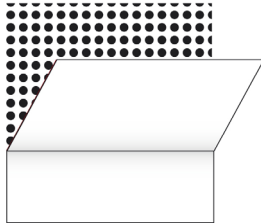

Figure 05
- › Once the graphic is correctly applied to the top, remove the hinge (masking tape), then gradually remove the rest of the liner while applying the film. (FIG. 05)